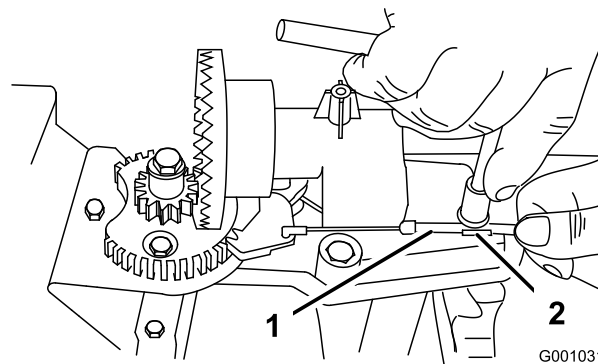
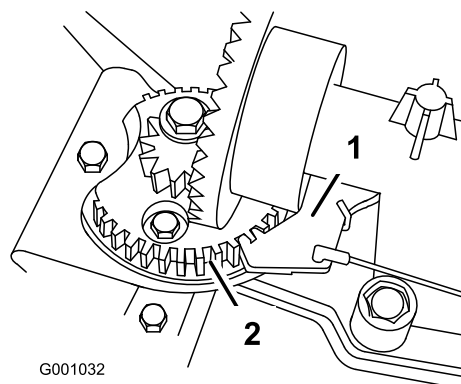

Figure 43
Figure 44
2. Loosen the bolt on the cable clamp (Figure 43).
3. Grasp the cable conduit and move it toward the front of the machine until the discharge chute latch fully engages the gear teeth (Figure 43 and Figure 44).
Note: The latch is spring loaded and will naturally move into the teeth of the gear (Figure 44).